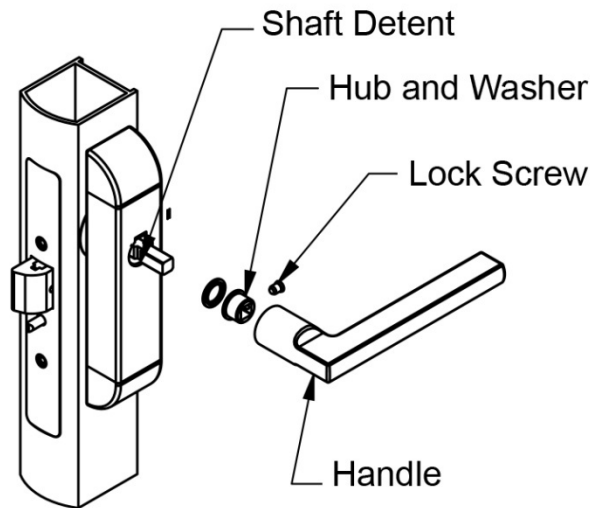

Figure 7. Installing the Handle
1. INSERT washer and then INSERT hub over the shaft, as required (see Figure 7, "Installing the Handle").
2. INSTALL the handle over the hub with the hole aligned with the hole on the hub (see Figure 7).
4. Using a 1/8" Allen wrench, TIGHTEN the lock screw to secure the handle to the shaft (see Figure 7).